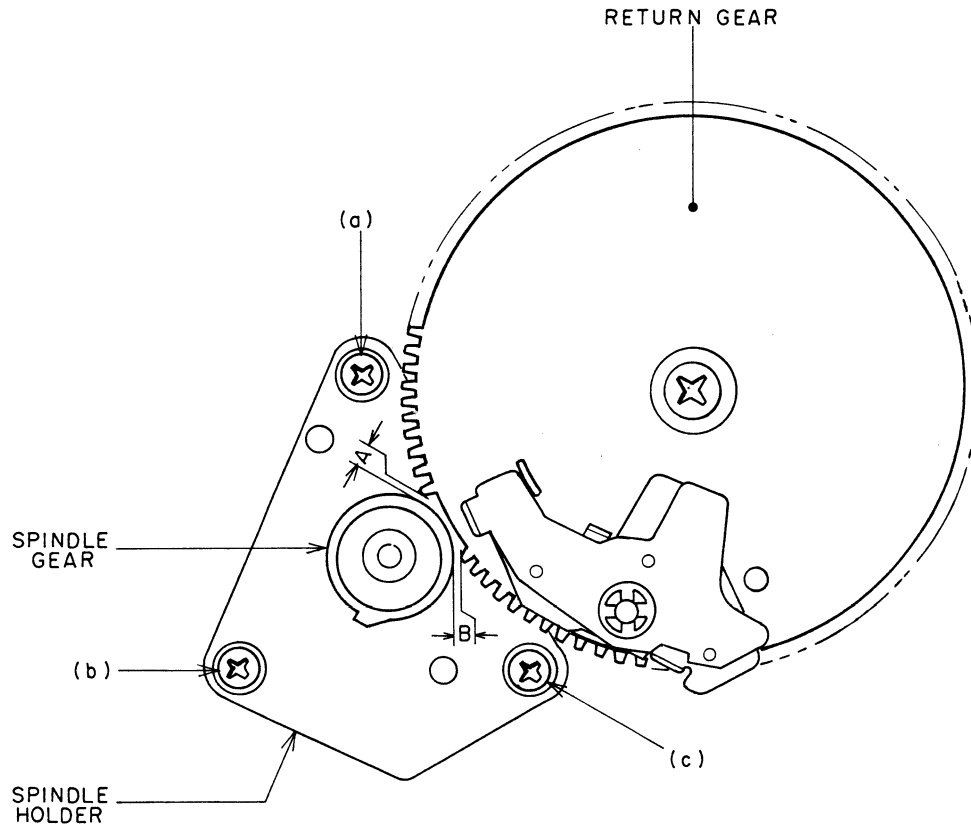

Fig. 8 Spindle Gear Position Adjustment
1. SPINDLE GEAR POSITION ADJUSTMENT (Refer to Fig. 8)